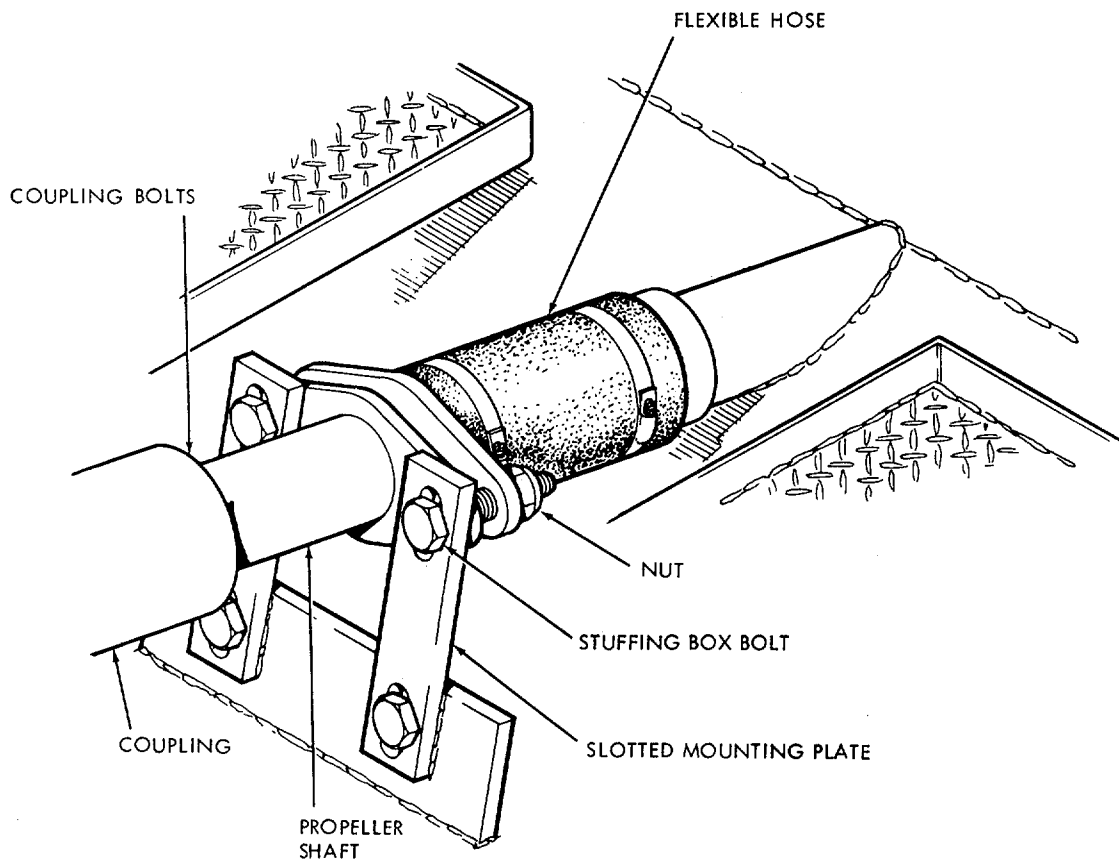

Figure 5-6. Stuffing box, removal and installation (hulls 8540-8560 and 8580-8618).
a. *Removal.* Remove the nuts (fig. 5-6) bolts, and mounting plates and remove the stuffing box from the shaft.
c. *Installation.* Install the plates, nuts, and bolts and secure the stuffing box (fig. 5-6).